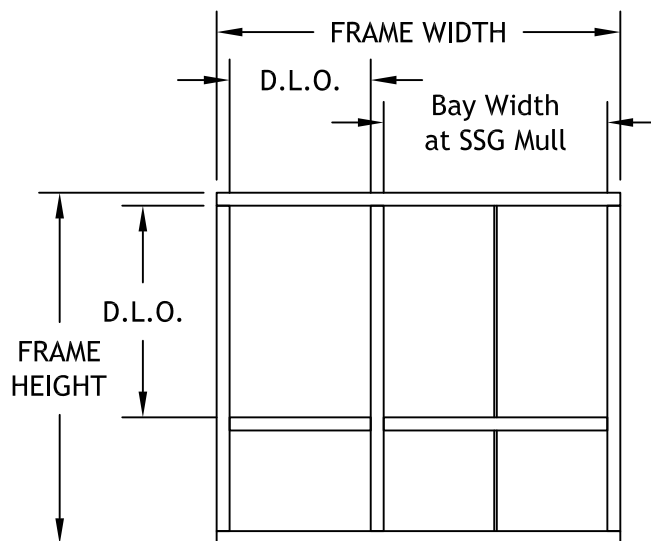

Figure 15
- 4.2 Cut material to size. **SEE FIGURE 15** for guide.